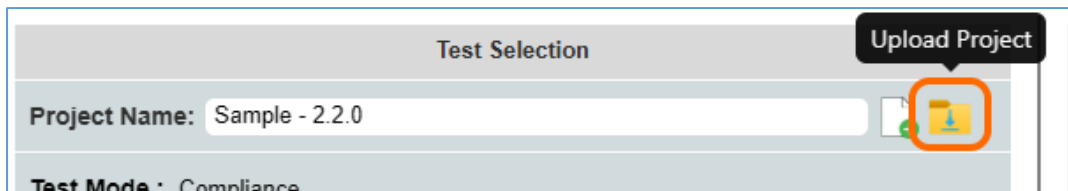

FIGURE 8.29: UPLOAD PROJECT— #1
1. Click on the **Upload Project** icon as indicated in Figure 8.29 below.